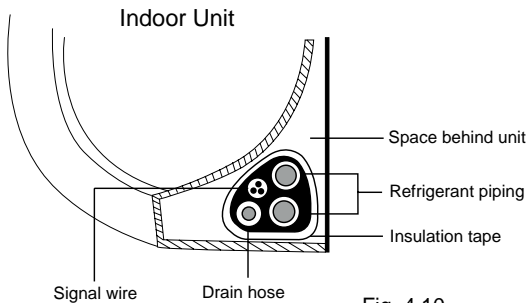

Fig. 4.10
1. Bundle the drain hose, refrigerant pipes, and signal cable according to Fig. 4.10.
3. Using insulation tape, wrap the signal wire, refrigerant pipes, and drain hose tightly together. Double-check that all items are bundled in accordance with Fig. 4.10